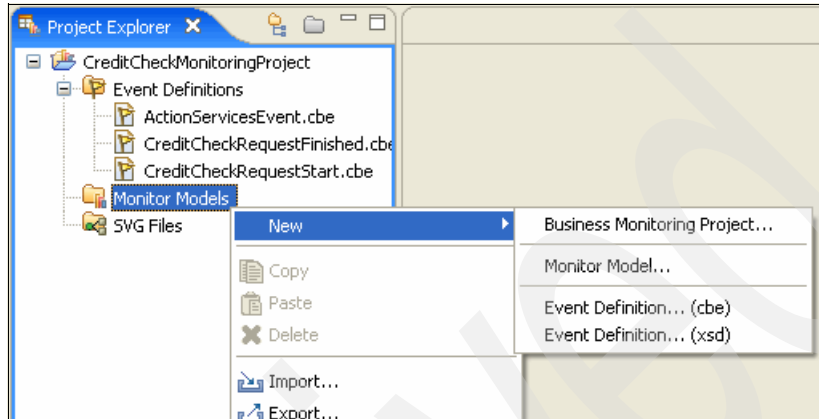

Figure 10-33 Navigating to the new monitor model
1. Under CreditCheckMonitoringProject (Figure 10-33), right-click **Monitor Models** and select **New** → **Monitor Model**.